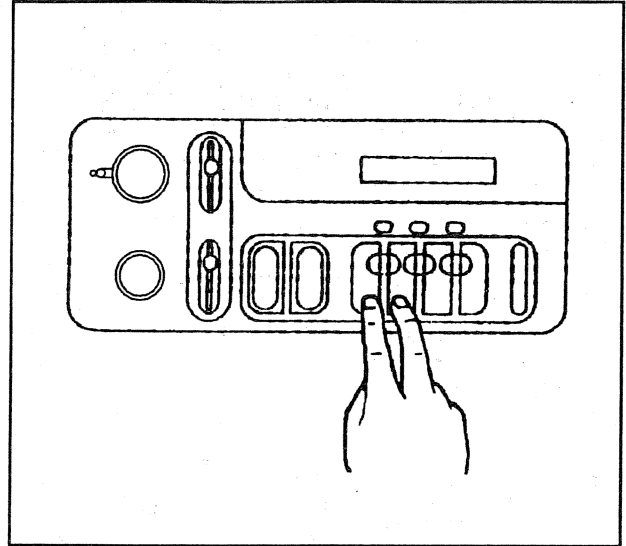

Figure 2—Pushbutton Pairing (1 of 3)
3. Press any two station pushbuttons at the same time (figures 2, 3, and 4). The station will return when the same two pushbuttons are pressed again.